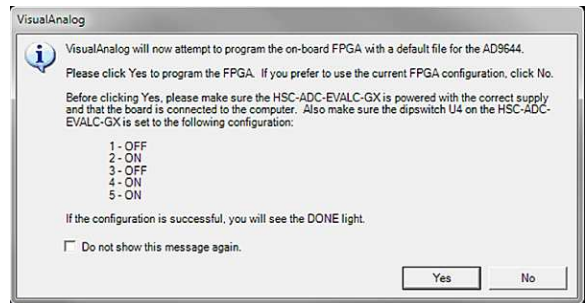

Figure 5. VisualAnalog Default Configuration Message
2. After the template is selected, a message appears asking if the default configuration can be used to program the FPGA (see Figure 5). Click **Yes**, and the window closes.